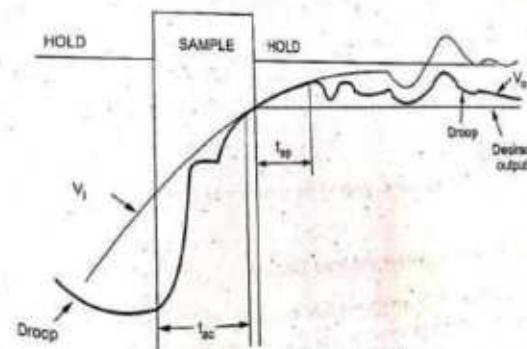

Fig. 6.5.4 S/H circuit waveforms
- These specifications are explained below with the help of S/H circuit waveform, shown in Fig. 6.5.4. (See Fig. 6.5.4 on next page)
- This changes the capacitor voltage and hence the output voltage, as shown in the Fig. 6.5.4.